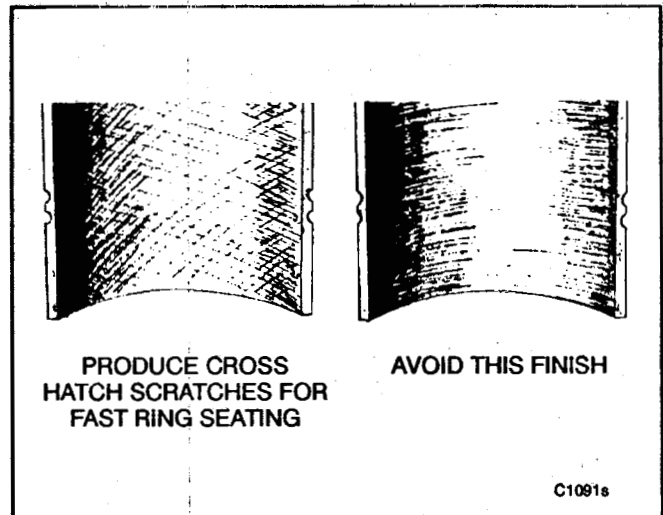

FIGURE 11-32. CROSSHATCHING
3. Use a slow speed drill to drive the deglazing tool. Move the deglazing tool up and down in the cylinder (10 to 12 complete strokes) rapidly enough to obtain a crosshatch pattern (Figure 11-32).